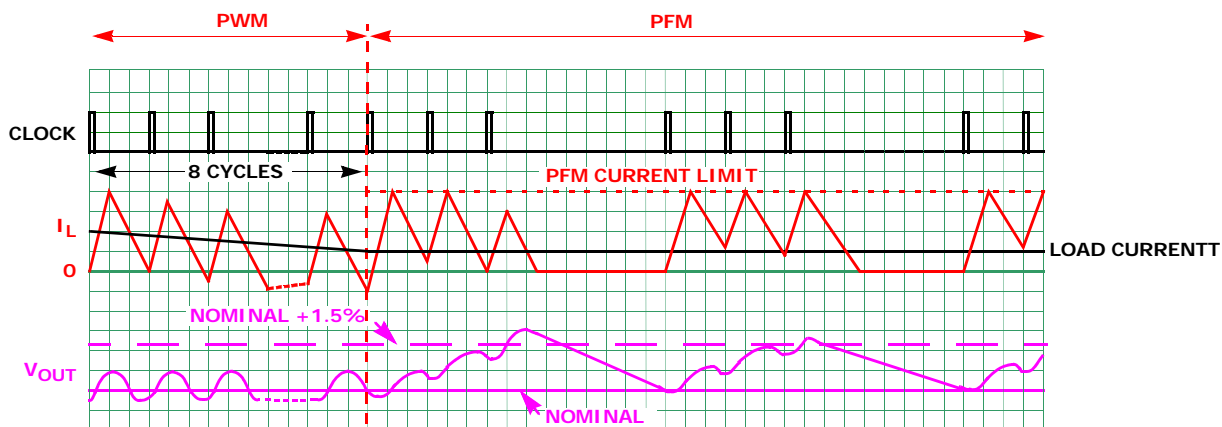
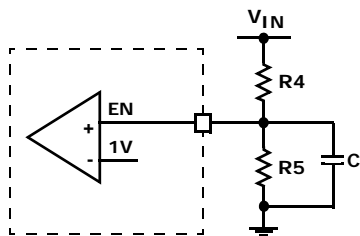
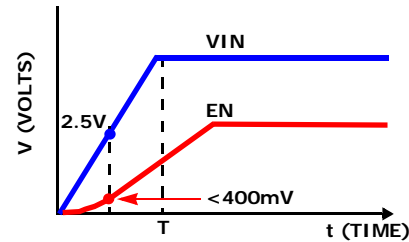

FIGURE 37. SKIP MODE OPERATION WAVEFORMS
FIGURE 38. EXTERNAL RESISTOR DIVIDER
FIGURE 39. CIRCUIT IMPLEMENTATION WITH V_{IN} SLEW RATE
Pulling the SYNCH pin LO (<0.4V) forces the converter into PFM mode. The ISL8014 enters a pulse-skipping mode at light load to minimize the switching loss by reducing the switching frequency. Figure 37 illustrates the skip-mode operation. A zero-cross sensing circuit shown in Figure 2 monitors the N-MOSFET current for zero crossing. When 8 consecutive cycles of the inductor current crossing zero are detected, the regulator enters the skip mode. During the eight detecting cycles, the current in the inductor is allowed to become negative. The counter is reset to zero when the current in any cycle does not cross zero.
When the input voltage is below the undervoltage lock-out (UVLO) threshold, the regulator is disabled. To adjust the voltage level of power on and UVLO, use a resistive divider across EN. The input voltage programming resistor R_4 will depend on the bottom resistor R_5 , as referred to in Figure 38. The value of R_5 is typically between 10kΩ and 100kΩ.
The enable (EN) input allows the user to control the turning on or off the regulator for purposes such as power-up sequencing. When the regulator is enabled, there is typically a 600μs delay for waking up the bandgap reference and then the soft-start-up begins. It is recommended that the EN voltage should be kept logic low (less than 400mV), until V_{IN} reaches 2.5V. Refer to Figures 38 and 39 for suggested circuit implementation with V_{IN} slew rate.
| 11/23/09 | FN6576.4 | Updated on page 13 in UVLO section, last sentence from "...programming resistor R5...", The value of R4..." to "...programming resistor R4...", The value of R5...". Replaced Figure 38, Removed Equation after Figure 38. Reworded last sentence in Enable section from "It is necessary to keep the voltage on the EN low until Vin is greater than 2.5V" to "It is recommended that the EN voltage should be kept logic low (less than 400mV), until VIN reaches 2.5V. Refer to Figure 39 for suggested circuit implementation with VIN slew rate. Added Figure 39. Added Equations 1 and 2 and referencing text. Added Revision History and Products information. Moved Soft-Start section to read after PG section on page 13, changed "R4" to "R5" in last sentence of UVLO section, added reference of both Figures 38 and 39 in Enable section. |
| 09/10/09 | FN6576.3 | 9/10/09: Page 6: Revised last sentence of EN section from: "Do not leave this pin floating." TO: "Do not connect directly to VIN or leave this pin floating." 9/2/09: Page 2: Order Info: Added MSL link to Order Info per new standard Page 2: Revised Typical Application Diagram Pages 4-5: Per new Intersil standard: Added "Boldface limits apply over the operating temperature range, -40°C to +85°C." to common conditions of Electrical Specs table. Bolded MIN MAX columns where applicable. Moved "Parameters with MIN and/or MAX limits are 100% tested at +25°C, unless otherwise specified. Temperature limits established by characterization and are not production tested." from common conditions of Electrical Specs table to note in Min Max columns. Page 6: Added following sentence to EN pin description: " Keep the EN voltage low in disabled state until Vin settle or above 2.5V." Revised "FIGURE 37. SKIP MODE OPERATION WAVEFORMS" Page 14: Added FIGURE 38. EXTERNAL RESISTOR DIVIDER graphic and following sentence to UVLO section: "To adjust the voltage level of power on and UVLO, use a resistive divider across EN. The input voltage programming resistor R5 will depend on on the bottom resistor R4, as referred to in Figure 38. The value of R4 is typically between 10kohm and 100kohm." Added equation 1 to UVLO section: Added following sentence to Enable section: "It is necessary to keep the voltage of the EN low until Vin is greater than 2.5V." |